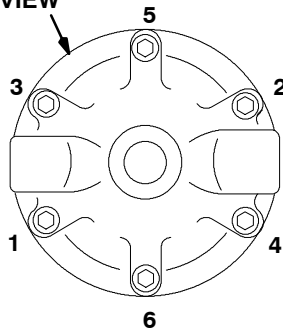

Fig. 5
5. Remove the swivel union (23) and spring (40) from the regulator body.
6. Remove the ball (20), valve seat (16), and gasket (15). See Fig. 5.
14. Torque the jam nut (13) onto the stem housing (18) to 21–35 ft-lb (28–47 N•m).
15. Install the valve stem (9), spring (3), gasket (21) and retaining screw (10) in the stem housing (18). Make sure the tab on the valve stem (9) fits into the slot on screw (10).
16. Torque the retaining screw (10) into the housing to 21–25 ft-lb (28–34 N•m).
17. Install the spring, adjusting screw (12) and cap on the housing (6). Tighten six capscrews (1) in the sequence shown in Fig. 5, **Bottom View**, and to the torque noted.